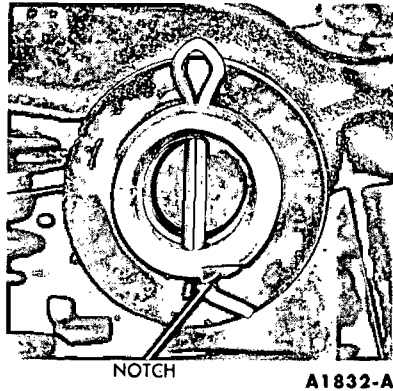

FIG. 27—Typical Installation Identification Mark—Rocker Arm Shaft Assembly
3. The filter element is not cleanable. Refer to the 1967 Passenger Car Maintenance Manual for the recommended replacement interval. Place a new filter element on the cover assembly. Position the assembled cover and filter element in the air cleaner body (Fig. 27).
4. Position the baffle plate and the valve rocker arm shaft assembly(ies) on the cylinder heads with the valve push rods in place and the rocker shaft support bolts finger-tight. **Be sure the shaft is positioned so that the oil holes are to the bottom. Also, the identification notch (Fig. 27) must be downward and toward the**
3. Install the rocker arms, supports and springs in the order shown in Figs. 28 or 29. **Be sure the oil holes in the shaft are facing downward. When properly assembled, the identification notch (Fig. 27) on the right rocker shaft assembly must be facing downward and toward the front of the engine. On the left rocker shaft assembly, the notch is downward and toward the rear.** Complete the assembly by installing the remaining flat washer, spring washer and cotter pin.